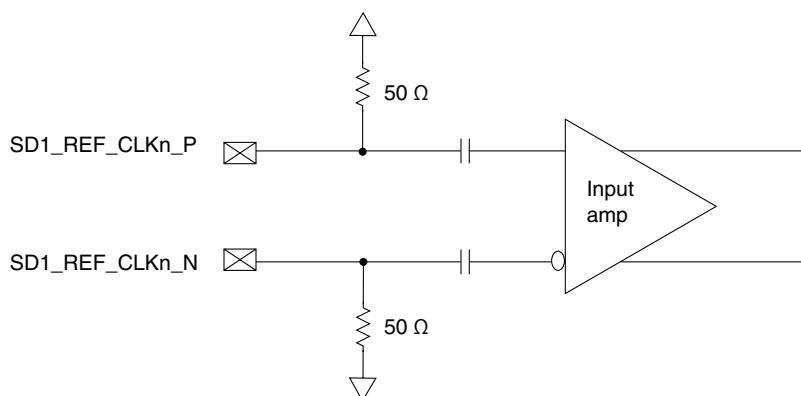

Figure 33. Receiver of SerDes reference clocks
- The SD1_REF_CLK n _P and SD1_REF_CLK n _N are internally AC-coupled differential inputs as shown in Figure 33. Each differential clock input (SD1_REF_CLK n _P or SD1_REF_CLK n _N) has on-chip 50- Ω termination to SGND n followed by on-chip AC-coupling.